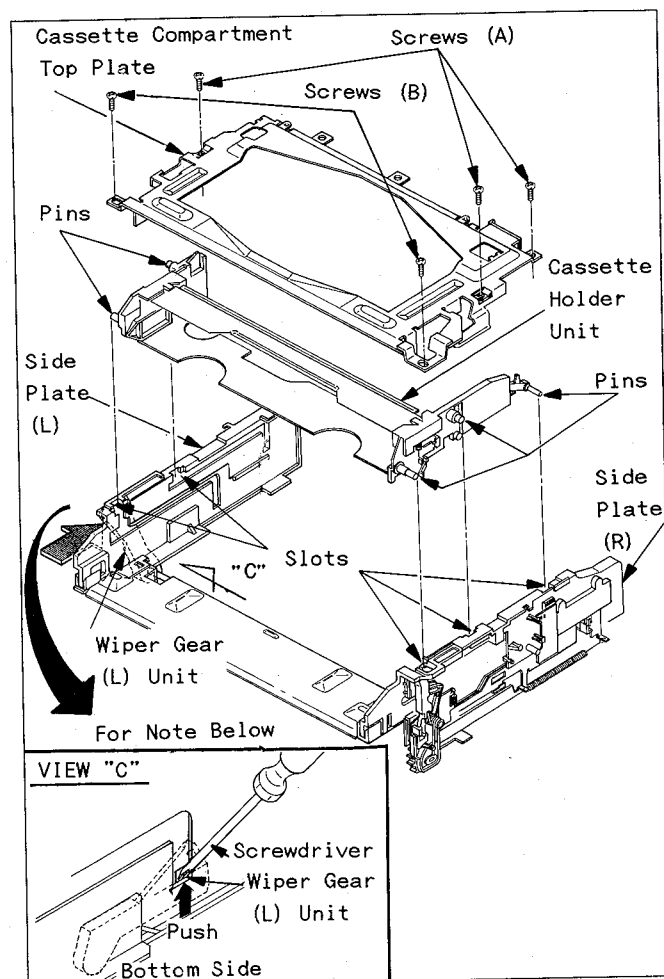

Fig. 9
2. Then remove the Cassette Compartment Top Plate by removing 3 Screws (A) and 2 Screws (B). Remove the Cassette Holder Unit by pushing the Wiper Gear (L) Unit until the 5 pins of Cassette Holder Unit clear the slots of the Side Plates (L) and (R) as shown in Fig. 9.
4. Push the Wiper Gear (L) Unit to place the unit in the cassette down condition (no tape) as shown in Fig. 9.
If the cassette mechanism can not be placed in the Cassette-Up Condition when the STOP Button is pressed. Push the wiper Gear (L) Unit Up using a screwdriver as shown in box, Fig. 9. Now push the STOP Button to Eject.